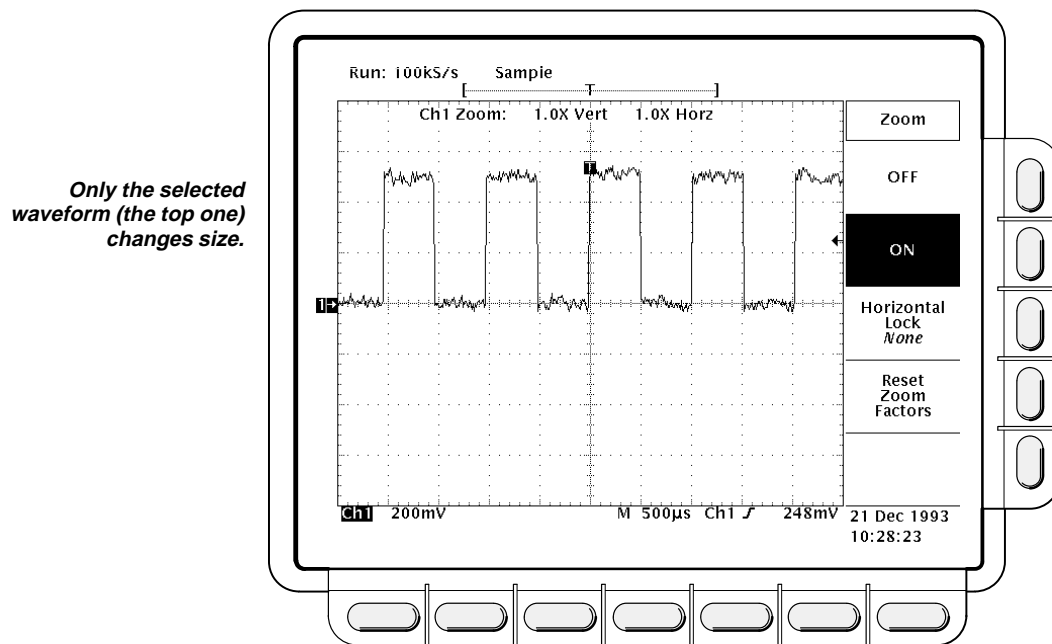

Figure 3-86: Zoom Mode with Horizontal Lock Set to None
- **None** — only the waveform currently selected can be magnified and positioned horizontally (Figure 3-86).